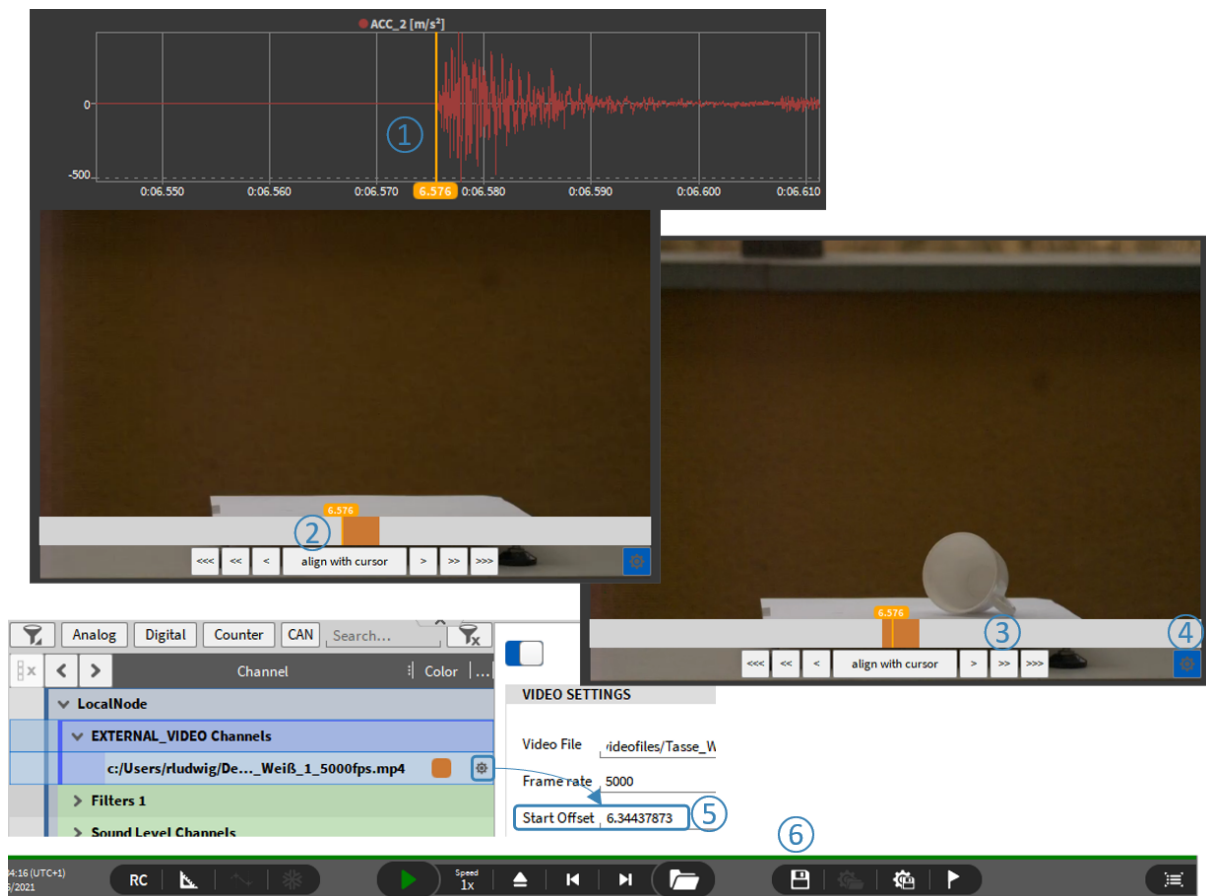

Fig. 7.170: Alignment of sensor and video data
1. Use the Recorder to move the orange cursor to the reference event for data synchronization (see ① in Fig. 7.170)
2. Press *align with cursor* to move the video start to the orange cursor position for a rough time adjustment (see ② in Fig. 7.170)
3. For fine time adjustments, use the <<<, <<, < & >, >>, >>> buttons to align the timeline (see ③ in Fig. 7.170)
4. When finished, the timebar can be hidden (see ④ in Fig. 7.170)
5. The absolute time offset can also be seen in the video's channel setup (see ⑤ in Fig. 7.170)
6. The settings can be saved to the data file (see ⑥ in Fig. 7.170)